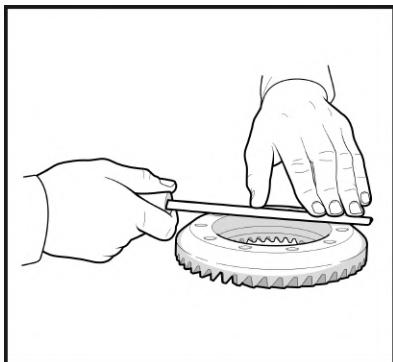

Fig. 14
2.3 Dress the mounting surfaces of the ring gear and the Electric Locker case with a file to remove raised edges and burrs around the holes and threads. (**Fig. 14**)